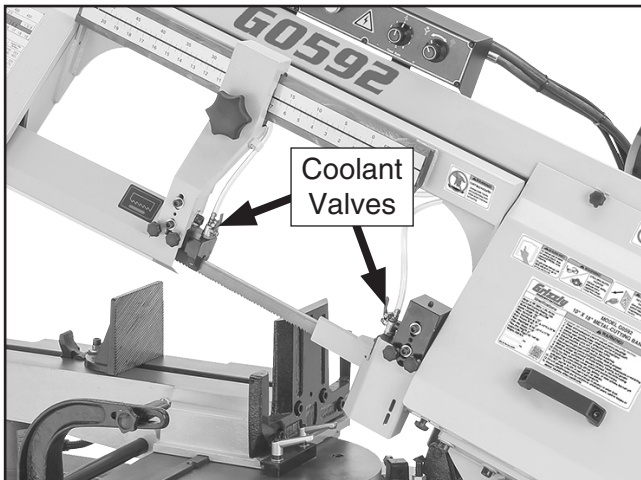
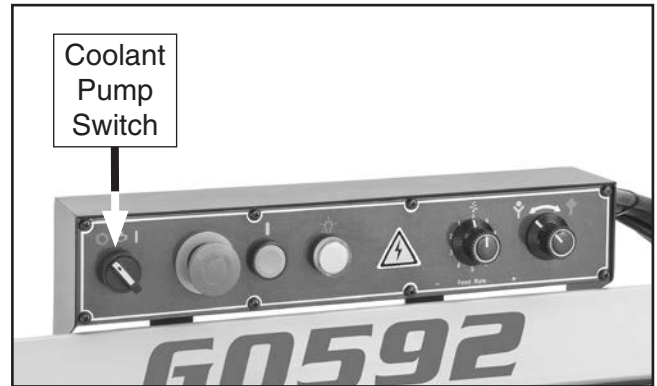

Figure 56. Location of coolant valves.
Figure 57. Location of coolant pump switch.
Add coolant (refer to **Adding Coolant** on **Page 46**), then open the coolant valves (see **Figure 56**) to control the flow of coolant before turning **ON** coolant pump by turning coolant pump switch to ON (I) position (see **Figure 57**).